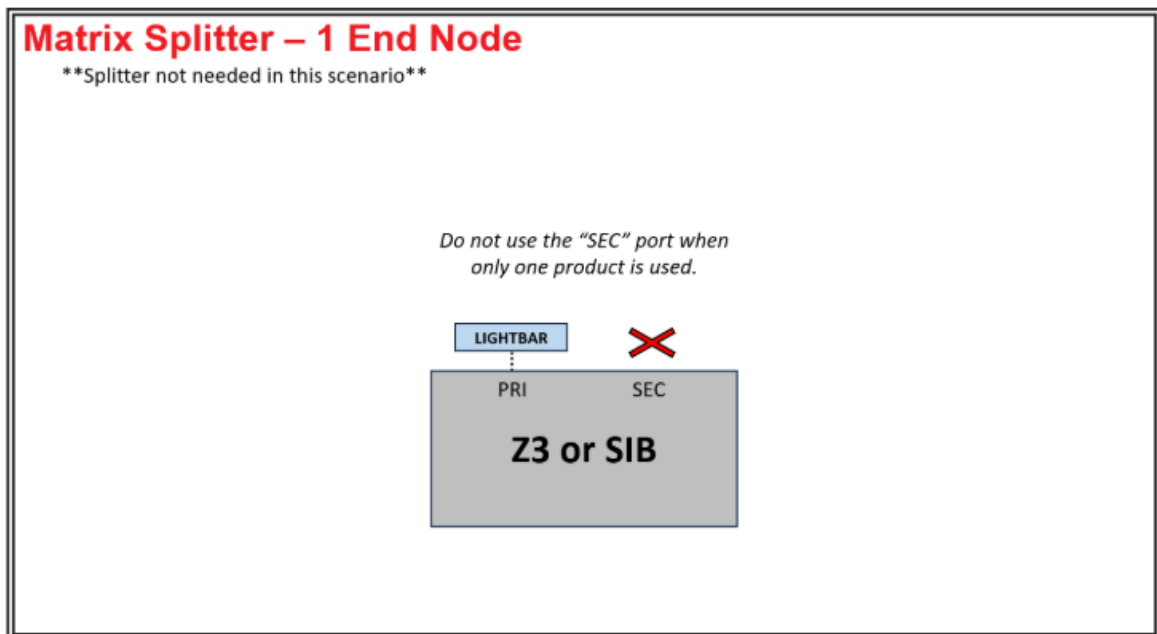

Figure 1
- The Matrix network is designed to conveniently accommodate a large number of devices connected with CAT5 cables. The Central Node, such as a Z3 Siren or SIB, will always have (2) ports available. These (2) ports can connect to any (2) end nodes, as well as any future "daisy chain" compatible nodes in line. An End Node is simply any Matrix compatible device with only (1) CAT5 connection. Examples include the Matrix-enabled light bar, SuperVisor, WingMan, Citadel, etc. Please note, for CAT5 connections the PRI-1 port must always be utilized first, before additional devices can be connected to the SEC-2 port. See Figure 1.